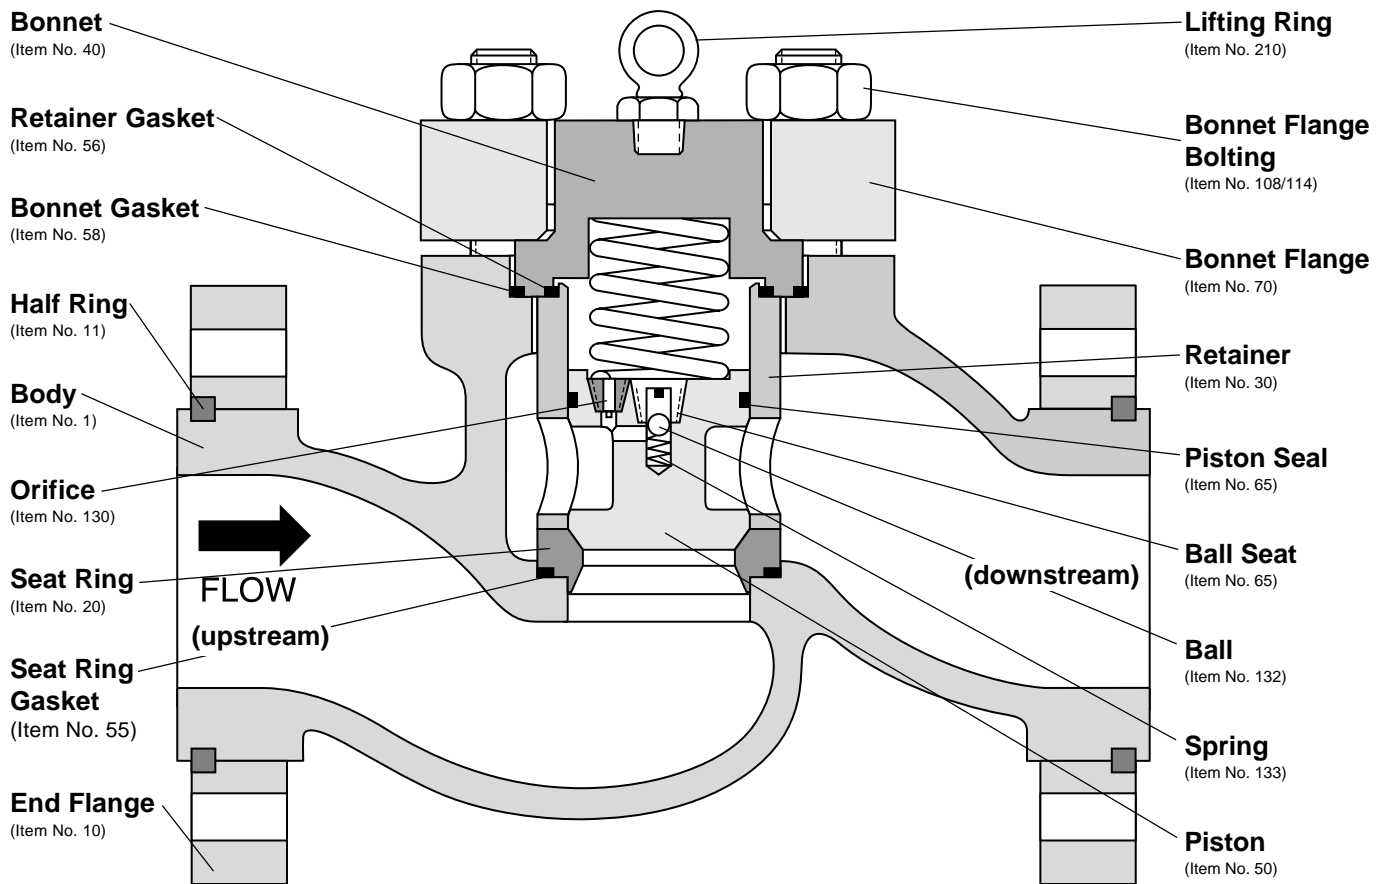

Figure 1: Non-slam Piston Check Valve
3. Double-check flow direction to be sure valve is installed correctly. Flow direction is shown by the arrow attached to the body flange. If flow arrow is not attached, refer to Figure 1 or 2 for proper flow direction.
To disassemble the non-slam piston check valve, refer to Figure 1 and proceed as follows:
To reassemble the non-slam piston check valve, refer to Figure 1 and proceed as follows: